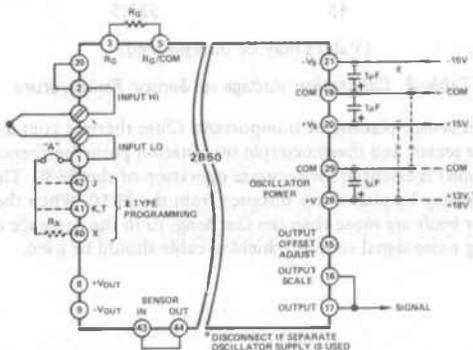

Figure 2. Basic 2B50 Application
The connections shown in Figure 2 are common to most applications using the 2B50, and, in many cases, will be all that is required.
Two sets of parallel thermocouple input connections are provided. The thermocouple input may be connected by screw terminals (Input +, Input -) or to terminal pins 1 (-) and 2 (+) in cases where thermocouples are to be remotely terminated. The following sections describe a basic thermocouple application, as well as detail some optional connections to enhance performance in more demanding applications. Jumper A (Figure 2) is used to disconnect cold junction compensation circuitry during offset adjustments.
The gain of the 2B50 is set by a user-supplied resistor (R_G) connected as shown in Figure 2. Gain will normally be selected so that the maximum output of the signal source will result in a plus full scale output swing. The resistor value required is determined by the equation: $R_G = 200k\Omega / (G-1)$.
2. Disconnect cold junction compensation circuitry by removing Jumper "A" (Figure 2).